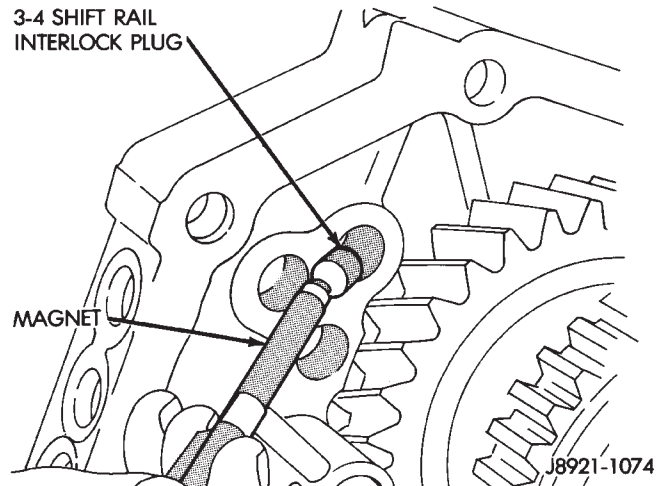

Fig. 72 Remove 3-4 Shift Rail Interlock Plug
- (24) Remove the 3-4 shift rail interlock plug from the intermediate plate with a small magnet (Fig. 72).